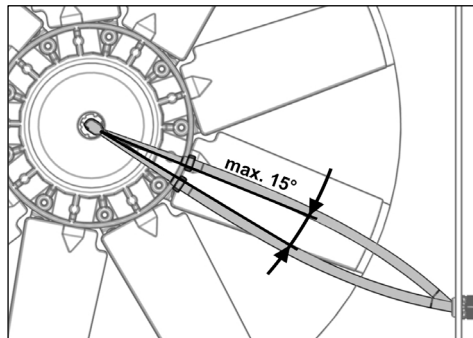

Fig. 30
- ▶ Check the tension and, if necessary, retention the pressure hose (see Fig. 30).